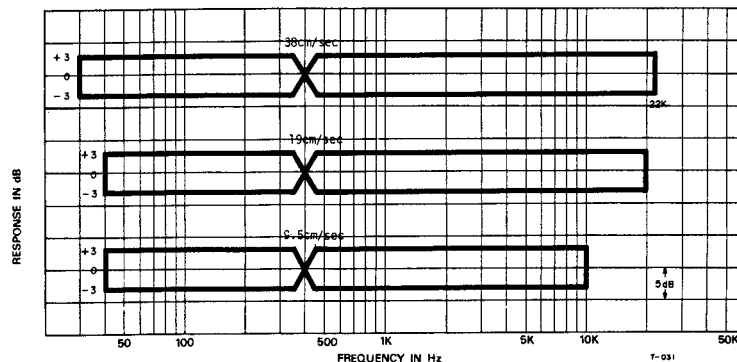

Fig. 11-2 Frequency Response -Playback-
3. Compare the readings obtained on the Test Set with the response limits given in Fig. 11-2.